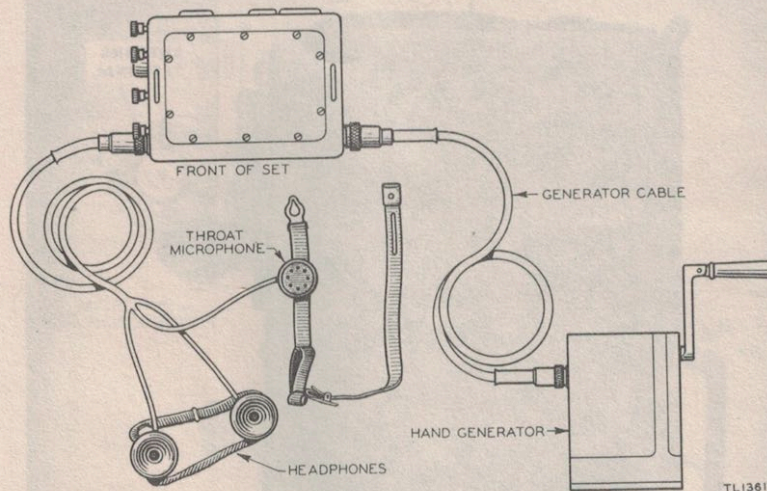
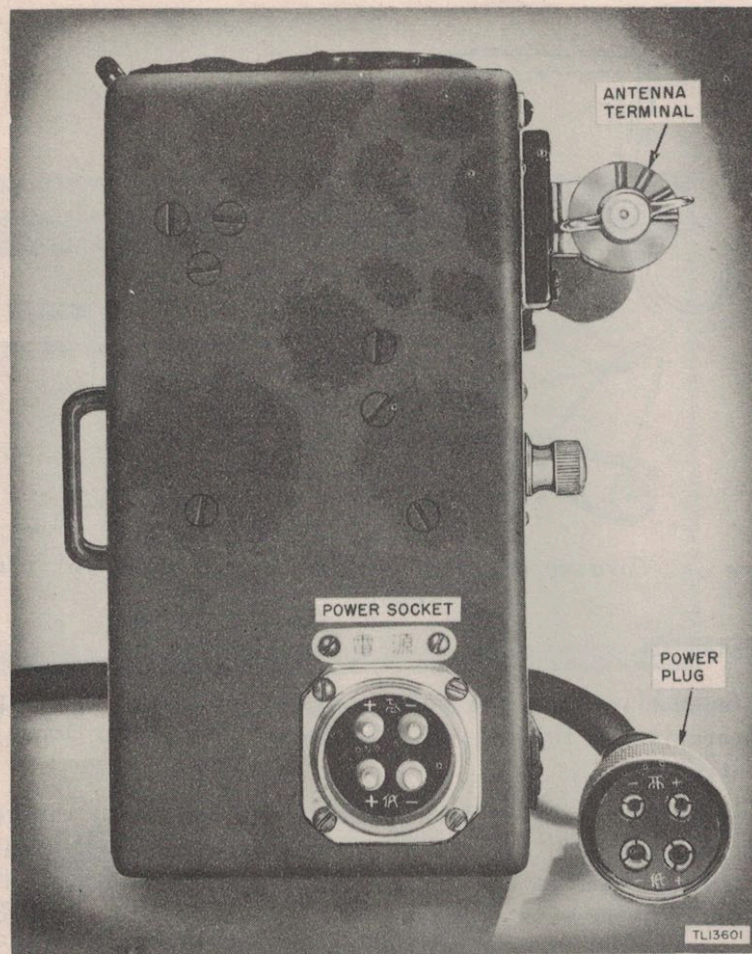

Figure 14. Cording diagram using hand generator for power supply.
Figure 15. Japanese Radio Set Model 97 Light Wireless Set, right end view, with name tab.
c. Power Supply. (1) For operation of the set with the hand generator as the power source, use the generator cable and connect as shown in figure 14. An end view of the power socket on the set and of the power cable plug (either generator or battery) is shown in figure 15.